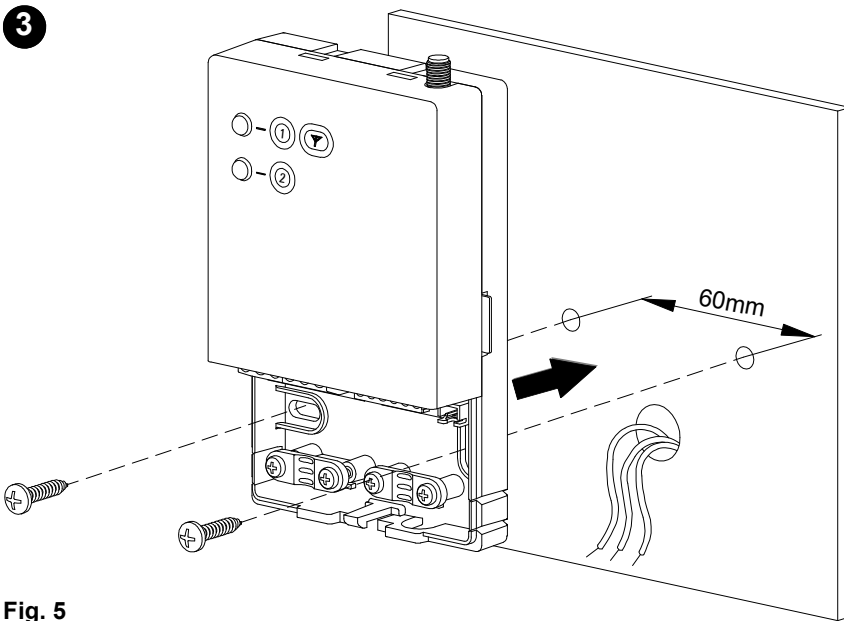

Fig. 5
- ③ Fix the plate onto the wall using the two screw housings with a 60 mm centre-to-centre distance (use the screws and/or dowels supplied), and let the wires pass through the rectangular openings (Fig. 5).